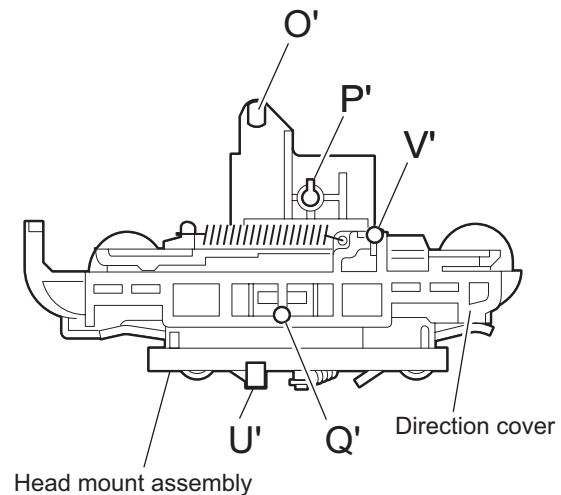

Fig.11
## 2.2.6 Reattaching the Play/ Record & Clear head (See Fig.11~13)
(1) Reattaching the head mount assembly.
- Fit the bosses **O'**, **P'**, **Q'**, **U'** and **V'** on the head mount assembly to the holes **P** and **V**, the slots **O**, **U** and **Q** of the mechanism sub assembly (See Fig.11 to 13).